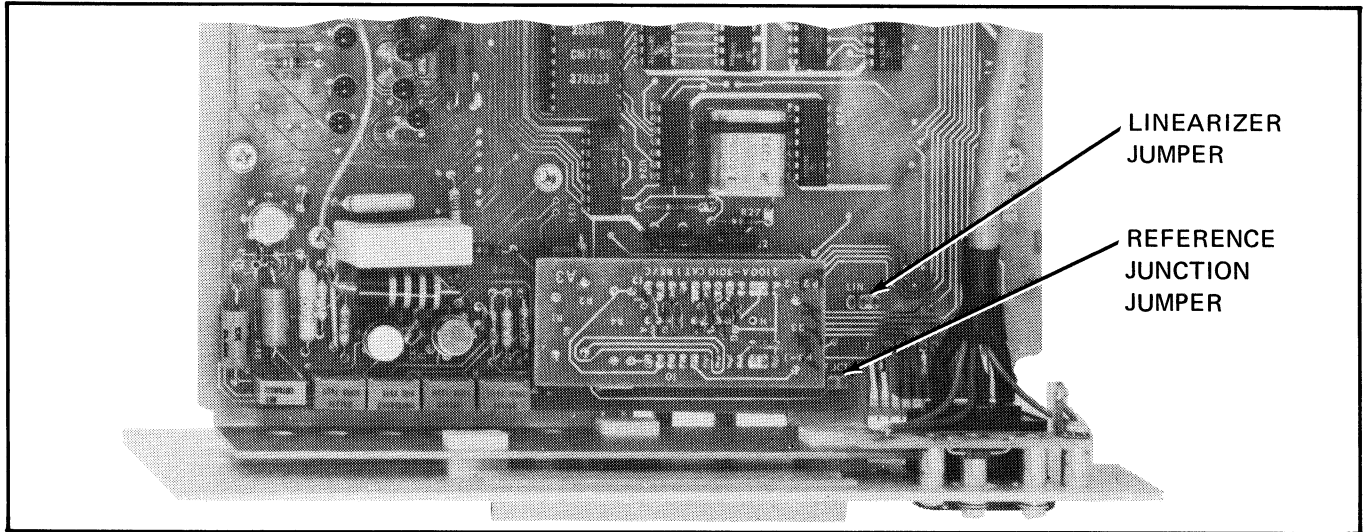

Figure 4-2. LINEARIZER AND REFERENCE JUNCTION JUMPER LOCATIONS.
- b. Remove the LIN and REF JCT jumpers. They are located near the left rear corner of the Basic PCB, (see Figure 4-2).
- c. Plug the linearizer jumper into the Main PCB (See Figure 4-2).